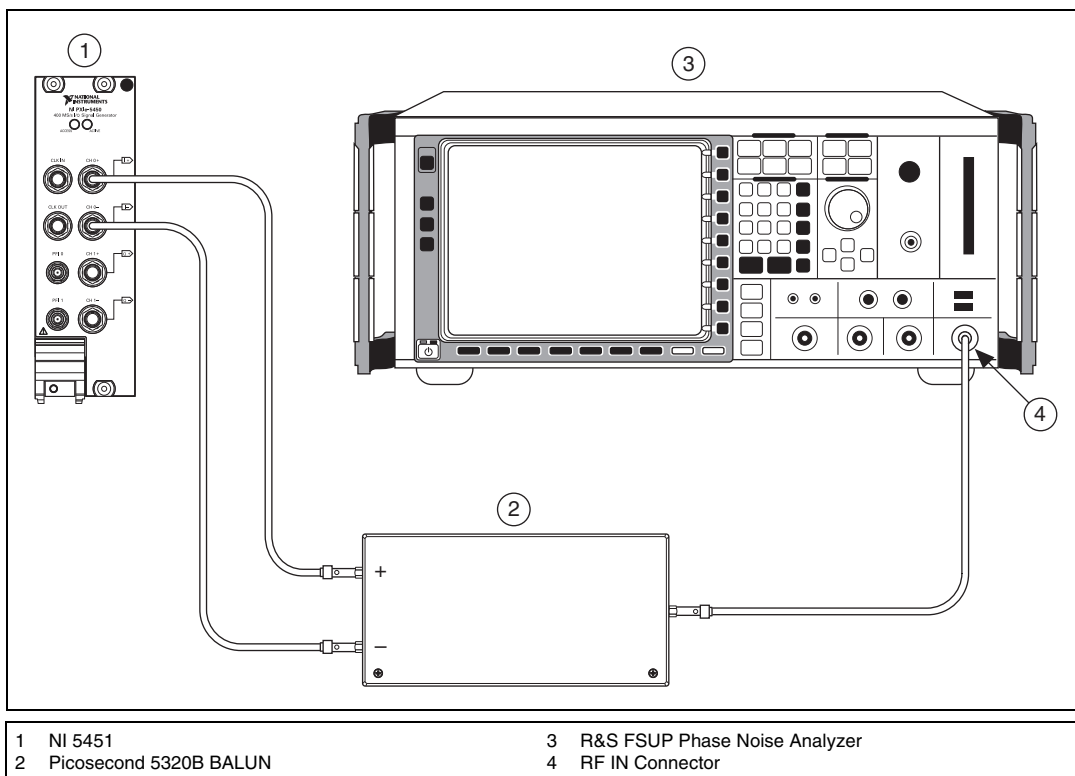

Figure 16. NI 5451 Connection to Phase Noise Analyzer using a BALUN (CH 0)
1. Connect the differential CH 0 on the NI 5451 through the BALUN to the phase noise analyzer, as shown in Figure 16.